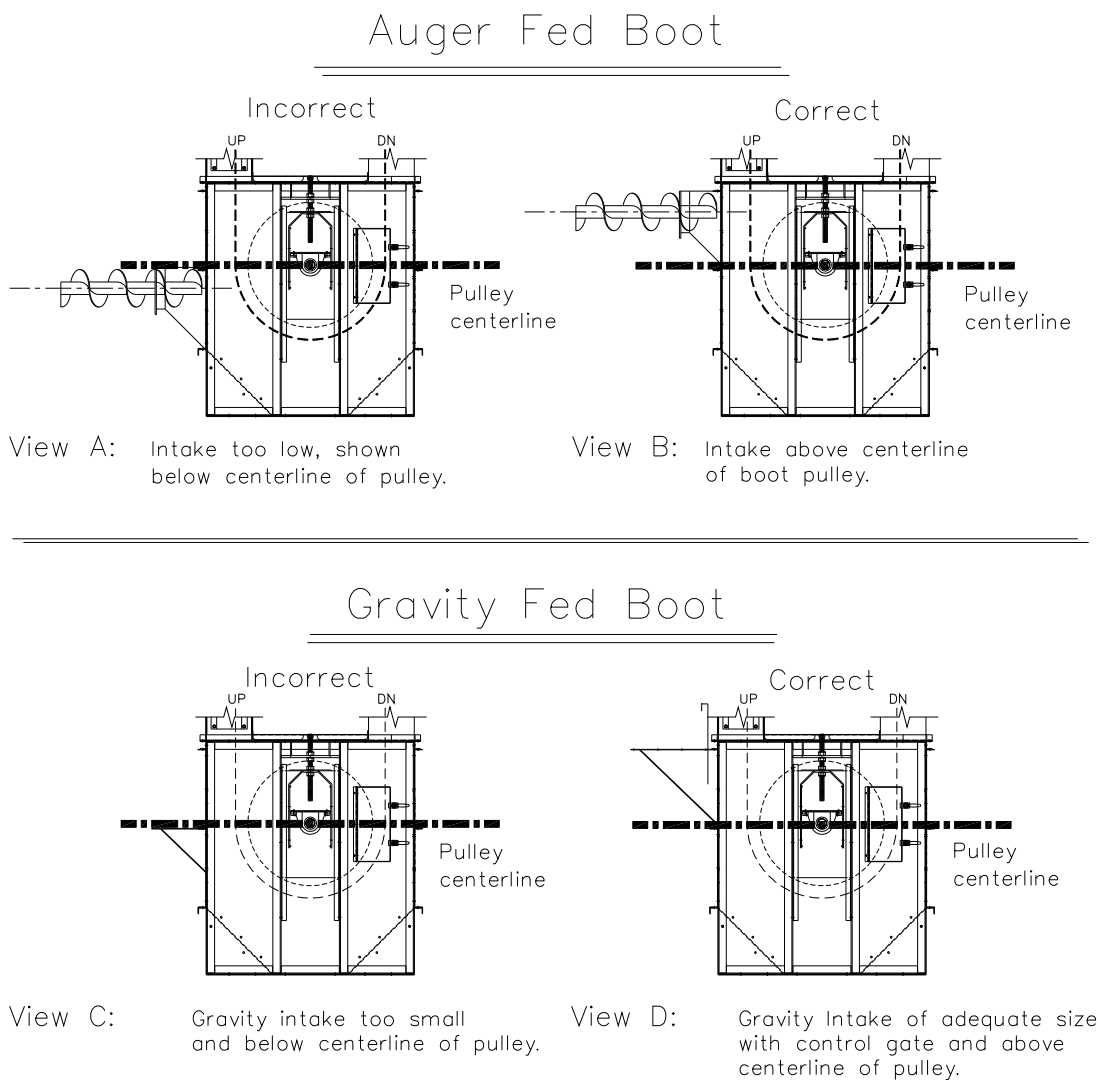

Figure 2-2, Boot Intake Conditions
- A. The method and location of intake openings in the boot usually will have been determined when the elevator was ordered. However, if the intake arrangements have or are being changed, several factors must be considered. See **Figure 2-2**